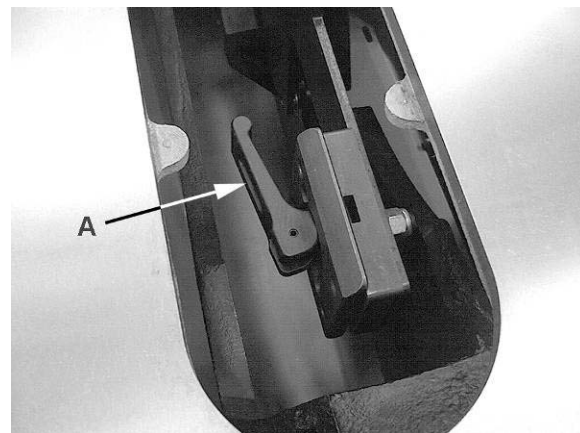
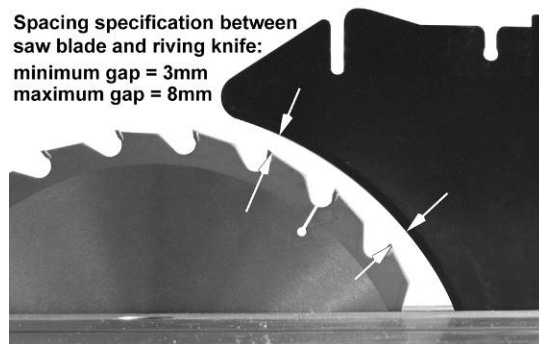

Figure 17
Figure 19
4. Loosen the *lock handle* (A, Figure 17) and remove the riving knife, making a note as to which direction the riving knife needs to be moved to align it with the saw blade.
Adjust any number of setscrews required to bring the riving knife in alignment with the saw blade. Then reinsert the riving knife, secure by tightening the *lock handle* (A, Figure 17) and check the alignment per step 2.
Note: Position the lock handle *towards* the saw blade as shown in Figure 17. This will avoid the table insert from being lifted when the blade is raised with the handwheel.
The gap between the saw blade and riving knife must be between 3 and 8mm (Figure 19). If adjustment is needed, note whether the blade to knife gap needs to be increased or decreased. Then adjust as follows:
3. Slide the *fixed clamp block* (F) toward or away from the saw blade as required.
4. Tighten the *socket head button screws* (E).
5. Reinsert the *living knife*; tighten the *lock handle* (A, Figure 17) and check that the saw blade/knife gap is between 3 - 8mm (Figure 19).